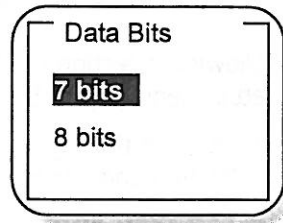

Fig. 3-8
- 1) When "DATA" is selected, the Data Bits menu will be displayed (Fig. 3-8).